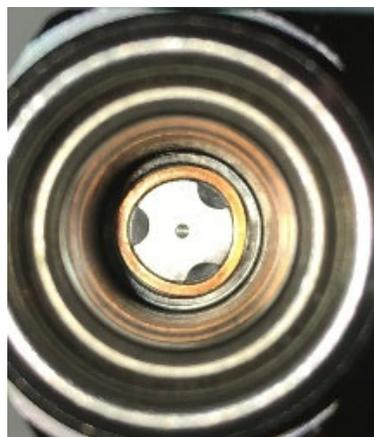

Figure 7-15: Solenoid Base Interior
10. Check to make sure the copper ring in the bottom of the solenoid base is not missing or broken into pieces. **See Figure 7-15.**